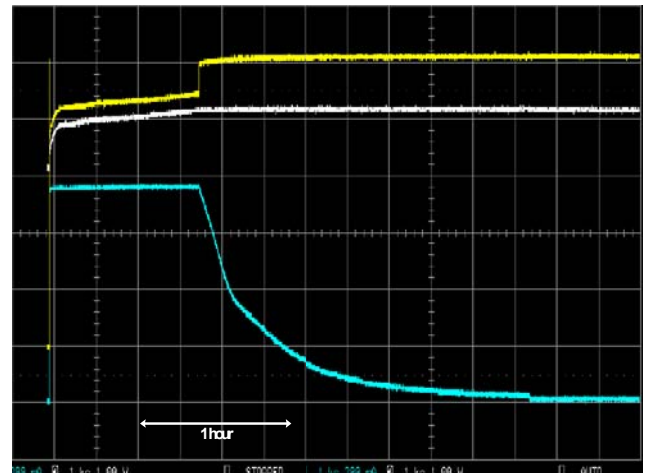

FIGURE 29. SCOPE CAPTURED WAVEFORMS SHOWING THE CASE THAT THE FULL-LOAD ADAPTER VOLTAGE IS HIGHER THAN THE CRITICAL VOLTAGE
Figure 29 shows the actual captured waveforms depicted in Figure 27 (C). The constant charge current is 750mA. A step in the adapter voltage during the transition from CC mode to CV mode is demonstrated.